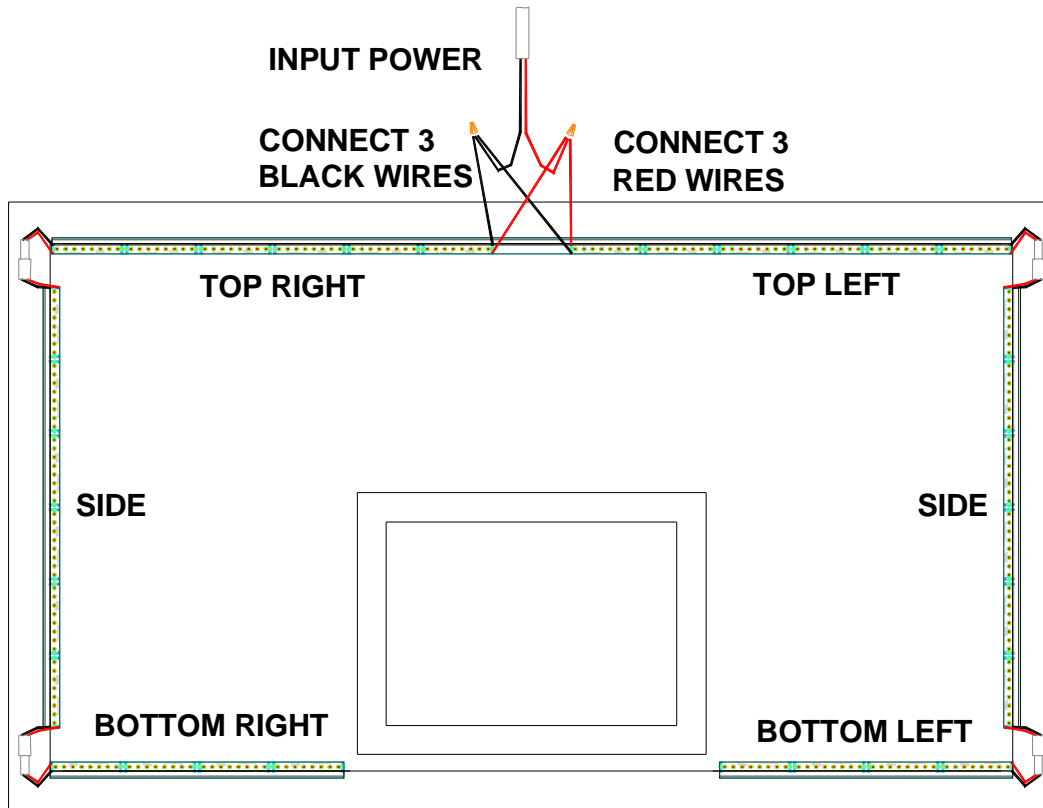

Fig. 2
7. Connect all wire harnesses in the four corners of the backboard as shown in Fig. 2
3. Using the wire nuts connect the wires of this cable to the LED backboard lights as shown in Fig. 2.
- At the TOP basket of the backboard, connect the wires of the cable to the LED backboard lights as shown in Fig. 2.